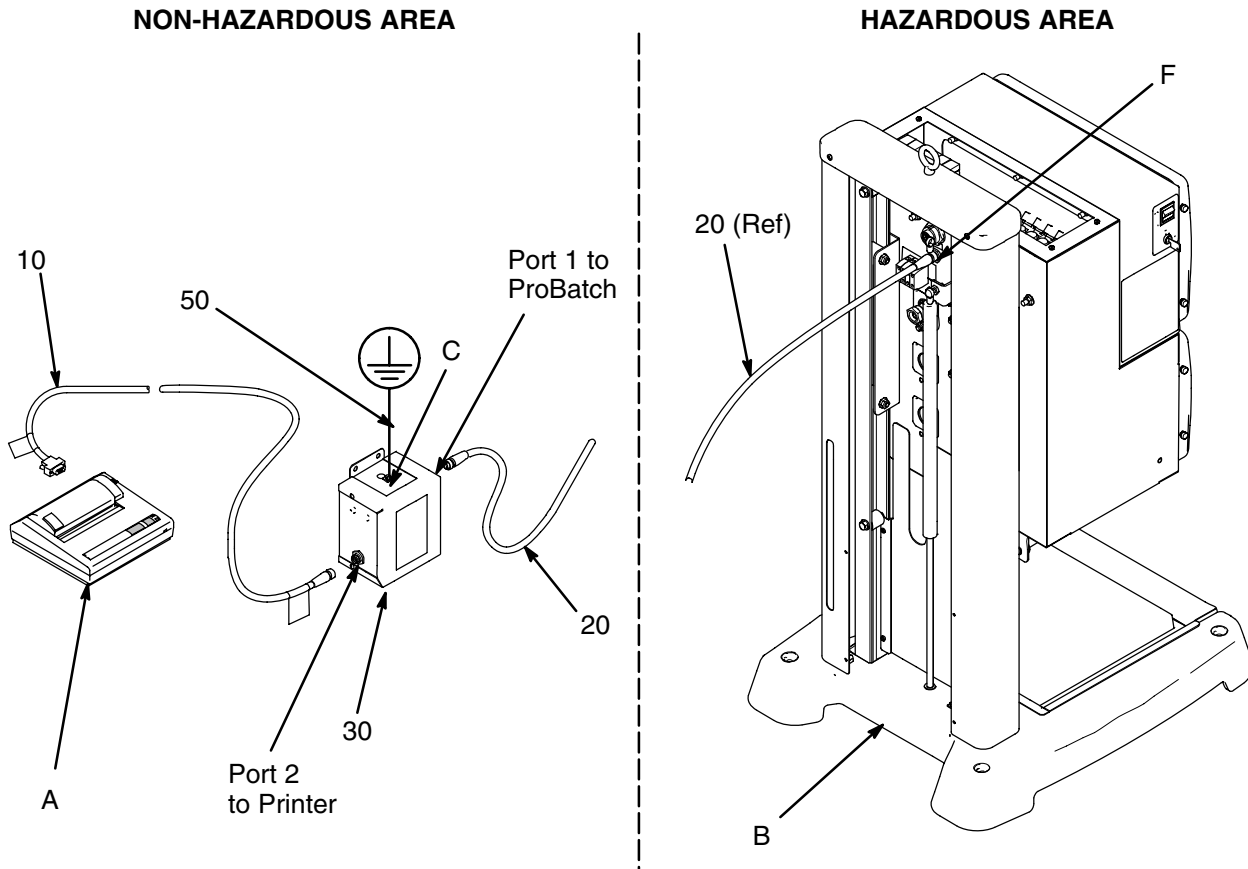

Fig. 4
3. Mount the printer barrier (30) in the non-hazardous area (Fig. 4).
4. Connect the ground wire assembly (50) to the printer barrier ground lug (C) (Fig. 4).
5. Measure the resistance between the printer barrier ground lug (C) and true earth ground. The resistance should be less than 1 ohm.
7. Connect the 45 ft. (13.7 m) cable (20) between Port 1 on the printer barrier (30) and the printer cable connector  (F) on the ProBatch control (B) (Fig. 4).